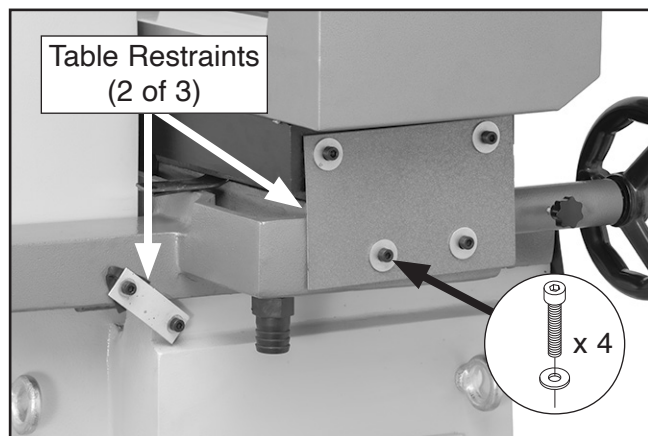

Figure 25. Location of table restraints, cap screws, and flat washers.
12. Remove (3) table restraints from machine (see **Figure 25**).
Note: Keep (4) M8-1.25 x 16 cap screws and 8mm flat washers from table restraints on left side of table (see **Figure 25**). These will be used to attach table extensions.